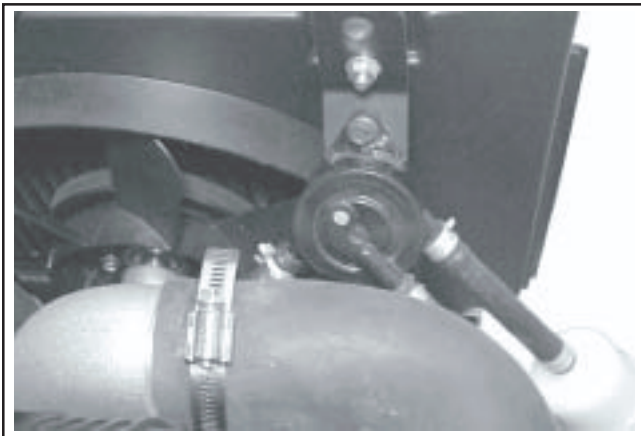

Figure 11-119. Fuel Line and Pump "Pulse" Fuel Pump.
9. If a "pulse" style fuel pump is used, install it to the tapped holes in the #2 side, upper radiator support bracket and torque the two screws to **6.8-7.3 N·m (60-65 in. lb.)**. Connect the outlet line between the pump and carburetor and the vacuum line to the crankcase fitting. Secure with the clamps. See Figure 11-119.